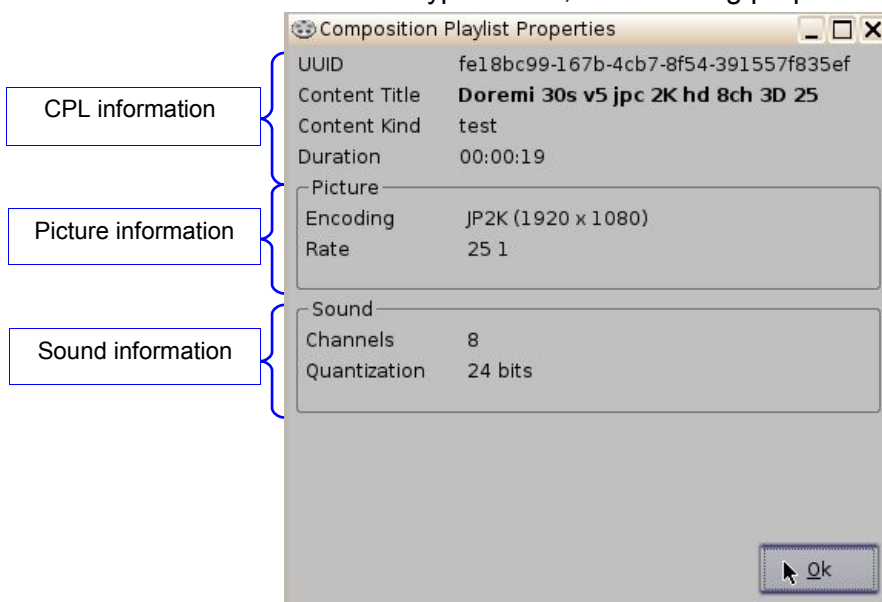

Figure 170: Composition Playlist Properties Window
- The Composition Playlist Properties window will appear (Figure 170).